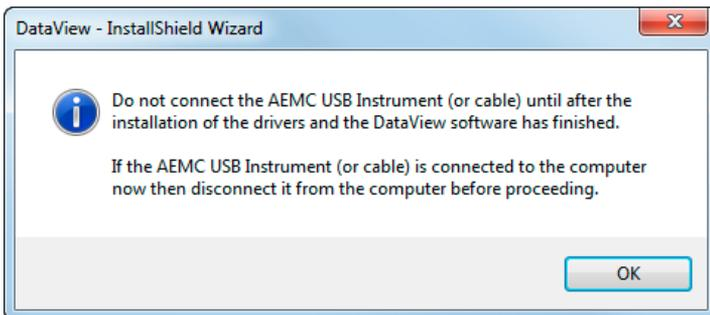

Figure 5-3
10. If the instrument selected for installation requires the use of a USB port, a warning box will appear, similar to Figure 5-3. Click **OK**.